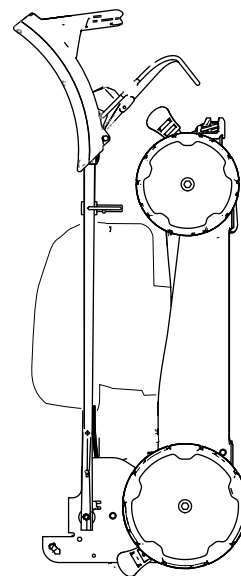

Figure 26
5. Lift the front of the machine by the handle and move it into a storage space (Figure 26).